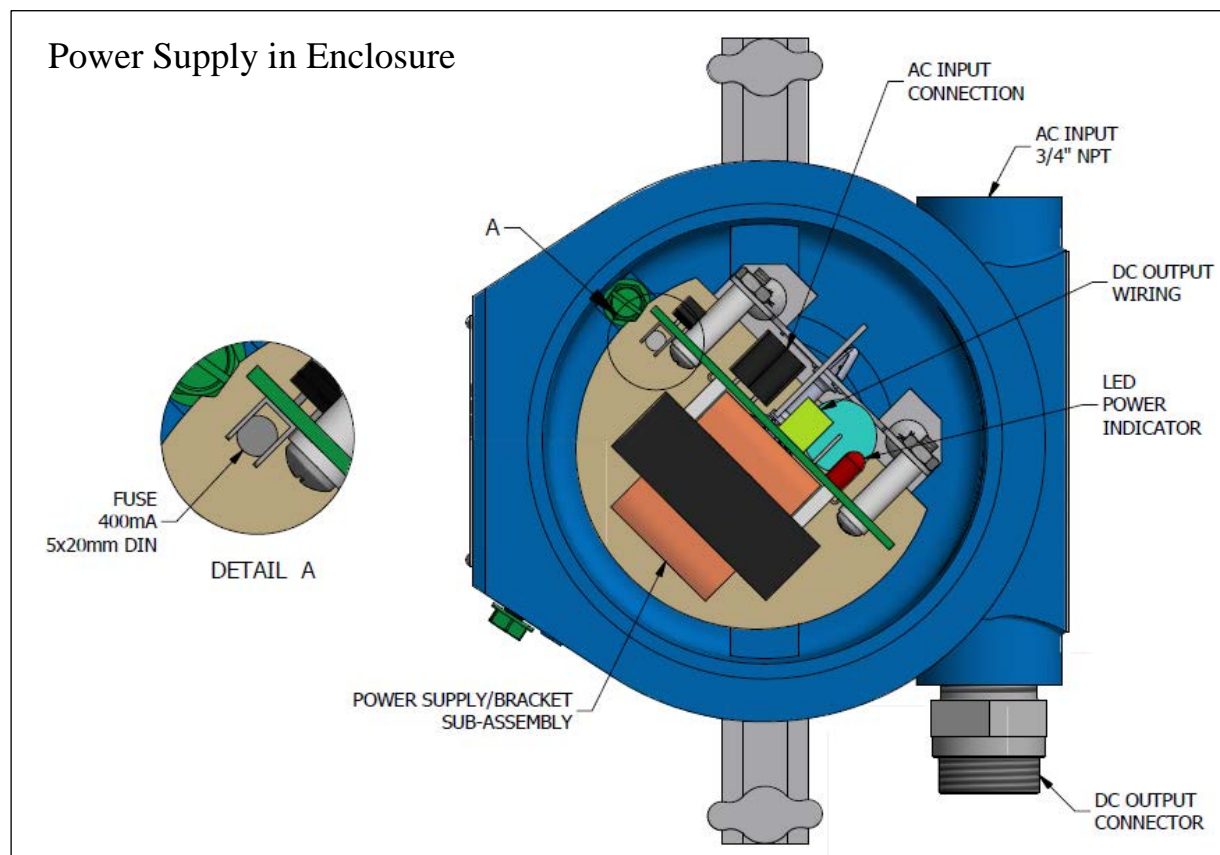

Figure 14: Power Supply in Enclosure
NOTE: See Figure 14 on next page for component locations.
- 10) Bench test unit by applying AC through AC Input Connector (ref. Figure 14).